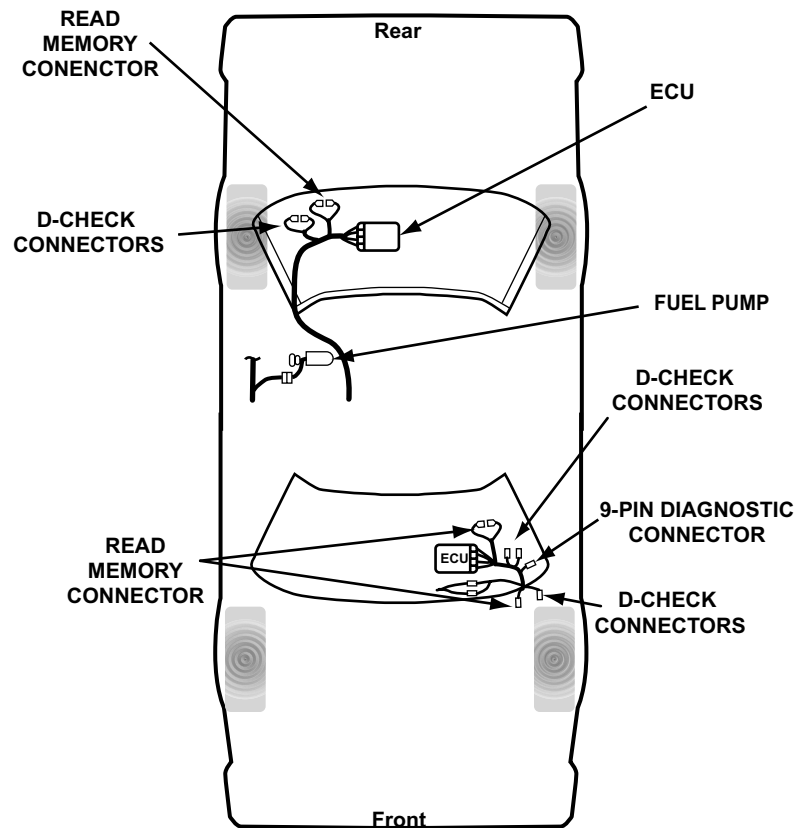

Figure 15-32 Common locations for D-Check and Read Memory connectors
D-Check connectors are used on some 1995 models and most 1994 and earlier models. D-Check connectors can be identified easily as a mating pair and are green in color. Read Memory connectors are used on some 1995 models, most 1986-94 models with fuel injection and some carbureted engines. Read Memory connectors are similar to the D-Check connectors, but are typically black in color. These connector locations vary by model and may be difficult to locate and identify. Figure 15-32 shows some typical locations where the D-Check connectors and Read Memory connectors may be found on various Subaru models. Refer to the appropriate figure for the vehicle being tested to locate and identify the connectors. Included in this section are the following.
- “Common locations for D-Check and Read Memory connectors” on page 199 (Figure 15-32)